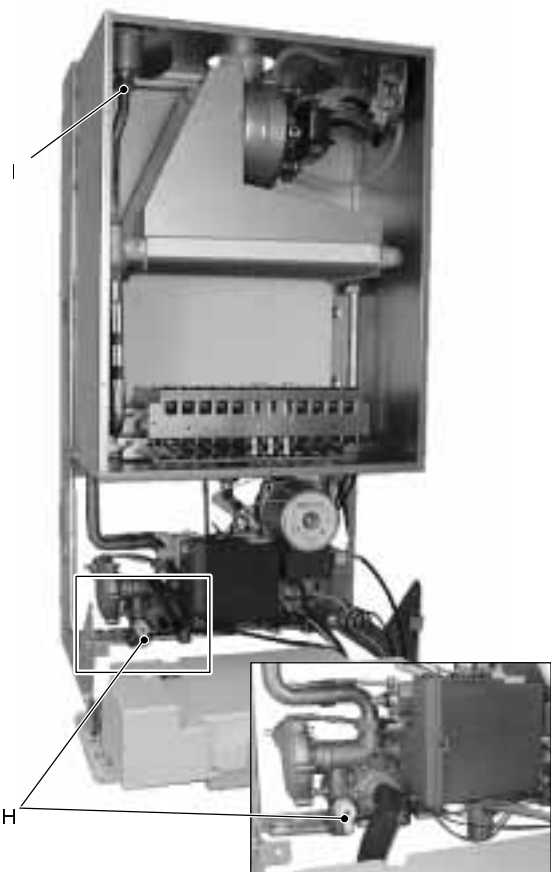

fig. 10
- 1 Connect a hose to the valve provided for the filling loop connection fitted on the c.h circuit. (fig. 10).
- 4 Open the draining tap *H* (fig. 10) until the boiler is completely emptied.
To facilitate the downflow of water, remove the front panel, also remove the sealed chamber lid and loosen the nut *I* (fig. 10) of the automatic air bleed valve. Tight it again once the emptying has been completed.